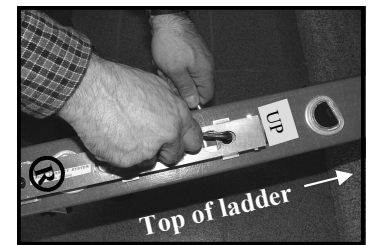

Figure 12
6.) Complete Mounting on Ladder Rail by sliding 3 mounting bolts, with all necessary spacer plates and / or thin washers, through the pre-drilled holes. **VERY IMPORTANT** - Install Base Units with “L” unit on **left** side of ladder and “R” unit on **right** side. Be sure base Unit is installed with red “UP” sticker on top. (Figure 1, 3, 10 & 12) Slide large fender washers over bolt ends and tighten the self locking nuts over them with a snug fit. Recommended torque is 9 foot pounds. Use 5mm” hex key (included) to hold bolt head in position while tightening nut with 1/2” wrench or socket. (See Figure 12) See [Video www.levelok.com](http://www.levelok.com)